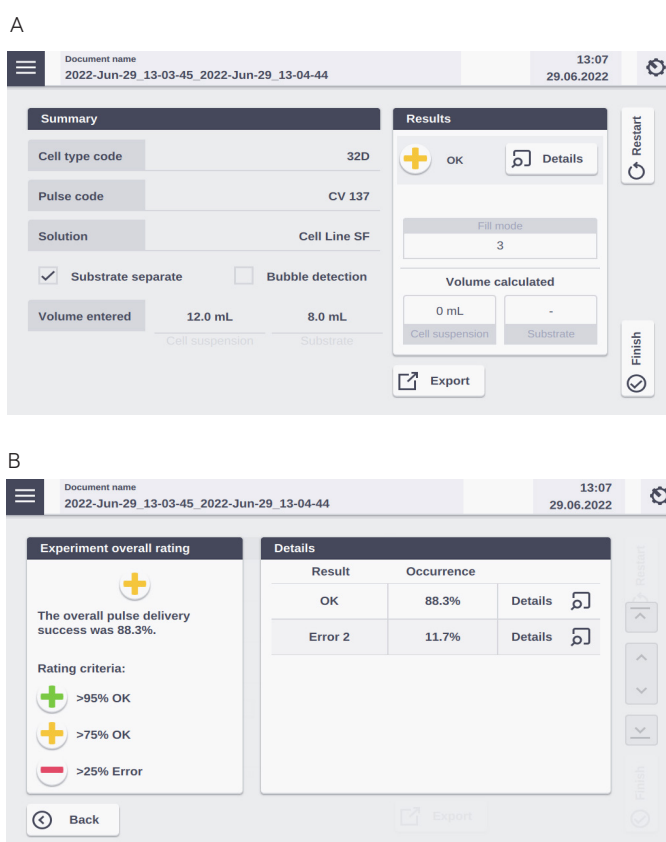

Figure 2.44: (A) Result screen. (B) Result details after tapping on the “Details” Button (Figure 2.36 A)
6. Once the required cycles to process the sample are completed, a Result screen summarizing the Nucleofection® Process will be displayed (Figure 2.44 A). Further details are displayed when pressing on “Details” (Figure 2.44 B).
- Yellow cross in case of few errors (Figure 2.44 A)
If errors occurred you can check for more details by pressing “Details”. The result details (Figure 2.44 B) will display the type of error and its’ percent occurrence in the processed volume. For additional information on the error, press “Details”.